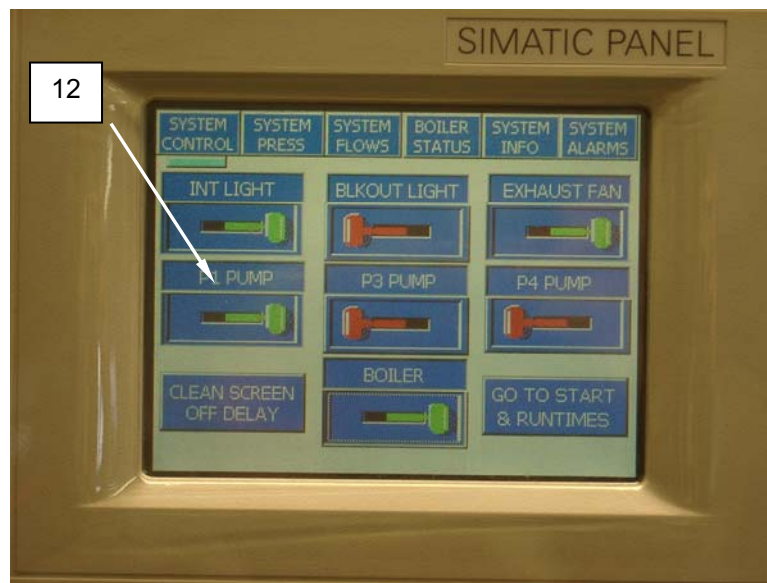

Figure 13. Sodium Bisulfite Preservation Procedure.
14. Switch P-1 pump (Figure 13, Item 12) OFF at the PLC unless operating from municipal water source.